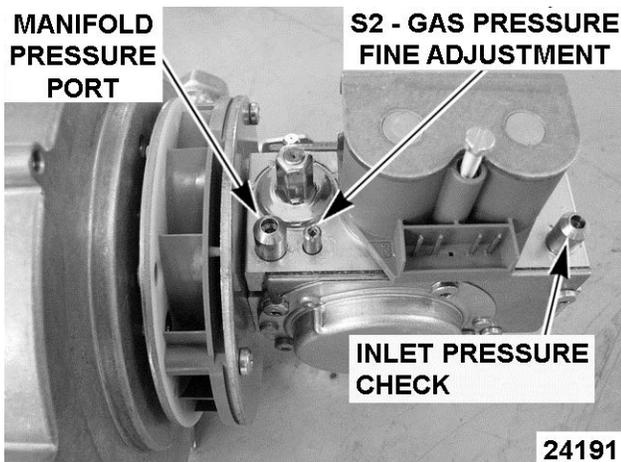

Fig. 45
9. Verify inlet pressure is 5-7" W.C. (natural) and 11-13" W.C. (propane). Refer to: Fig. 45.
1. Turn S2 gas pressure (Fig. 45) fine adjustment screw 1/4 turn (CW to increase; CCW to decrease).